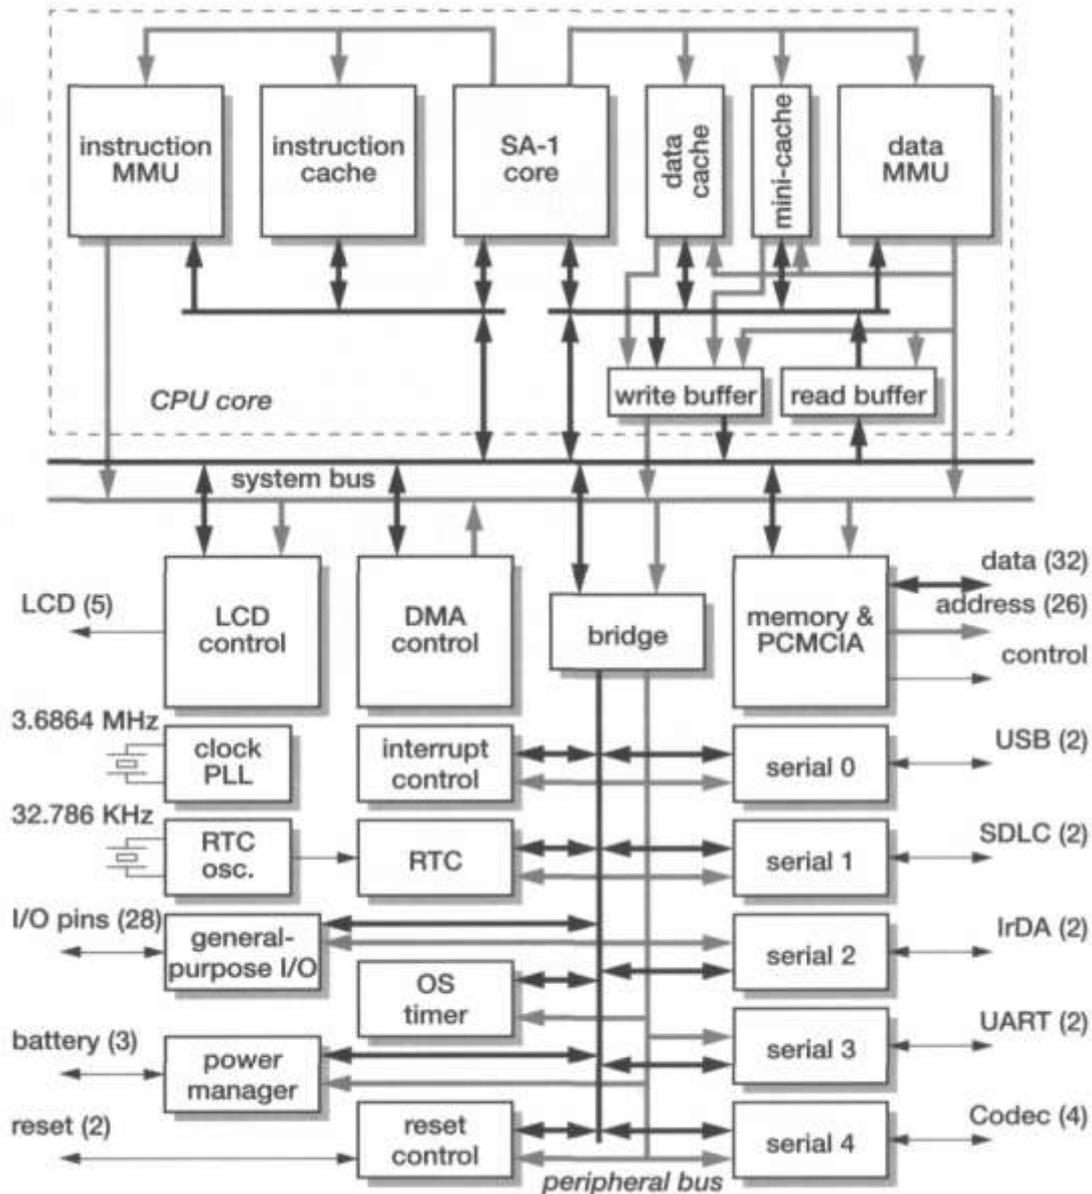

Figure 13.16 SA-1100 organization.
- ❖ The organization of the chip is illustrated in Figure 13.16
- ❖ As can be seen from Figure 13.16, the SA-1100 is built around two buses connected through a bridge: